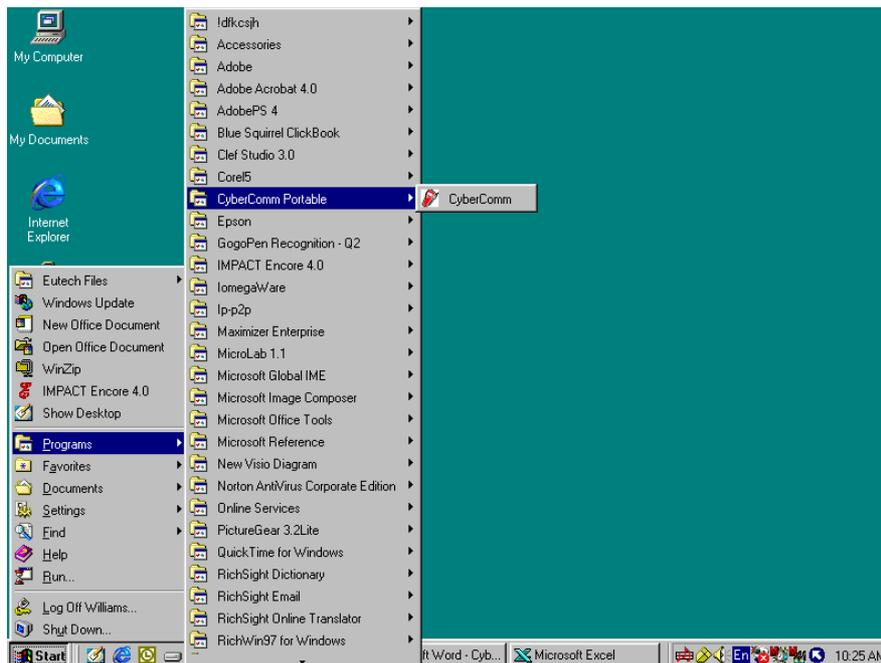

Figure 14: Run the CyberComm Software program
2. Switch on the CyberScan Portable meter and run the CyberComm DAS software as indicated in Figures 14 and 15. You can use MODE key on the meter and change to other parameter and print data accordingly.